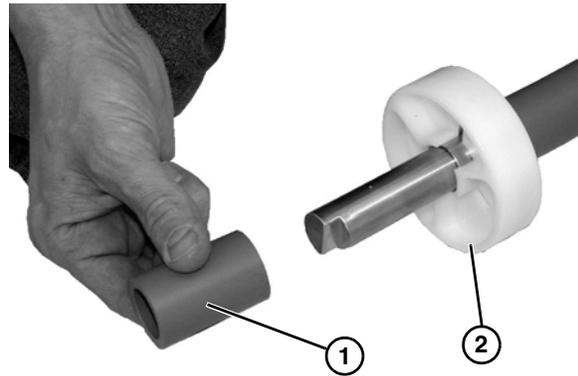

Figure 48
5. Slide off the round puck spacer (Figure 48, item 1).
6. Slide off puck (Figure 48, item 2) and replace if worn.